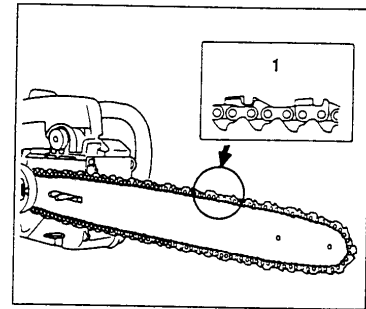

Fig. 1-3
4. Confirm the direction of saw chain (1) is correct as in the figure, and align the chain on the sprocket. (Fig. 1-3)